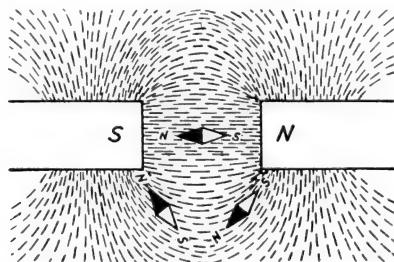

Fig. 5. The Compass Aligns Itself with Magnetic Lines
5. Why is the method of connecting meters shown in Fig. 5 on page 210 the best when the current is large?
pass correctly magnetized, and obtain correct readings with it. A compass that is not accurate will confuse you so that you will never get a complete understanding of magnetic action. Fig. 5 will help you to understand how a compass needle lines itself up in any other magnetic field.